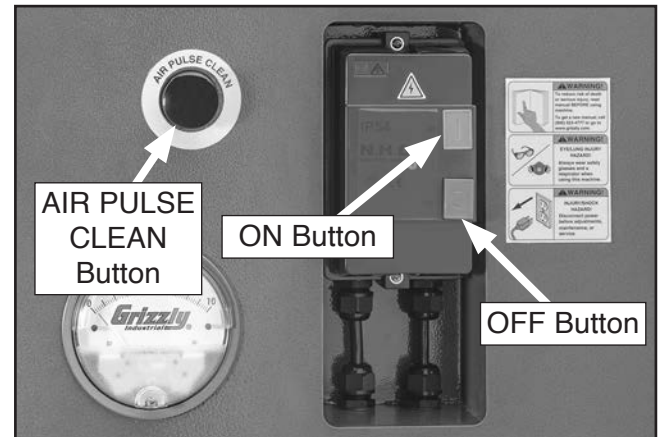

Figure 19. Location of controls.
4. Turn machine **ON**, verify motor operation, and then turn machine **OFF** (see **Figure 19**).